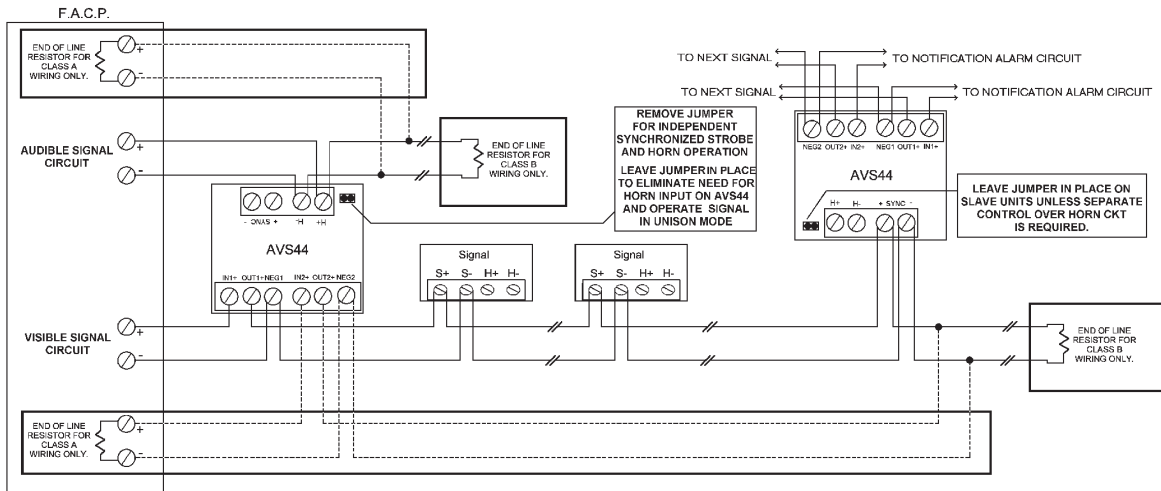

Figure 3
- Verify that the jumpers are properly set on both the control module and signal appliance. If the jumper on the AVS44 is as shown in Figure 3, the horns will not produce any sound unless there is an input to the H+ and H- terminals on the control module.